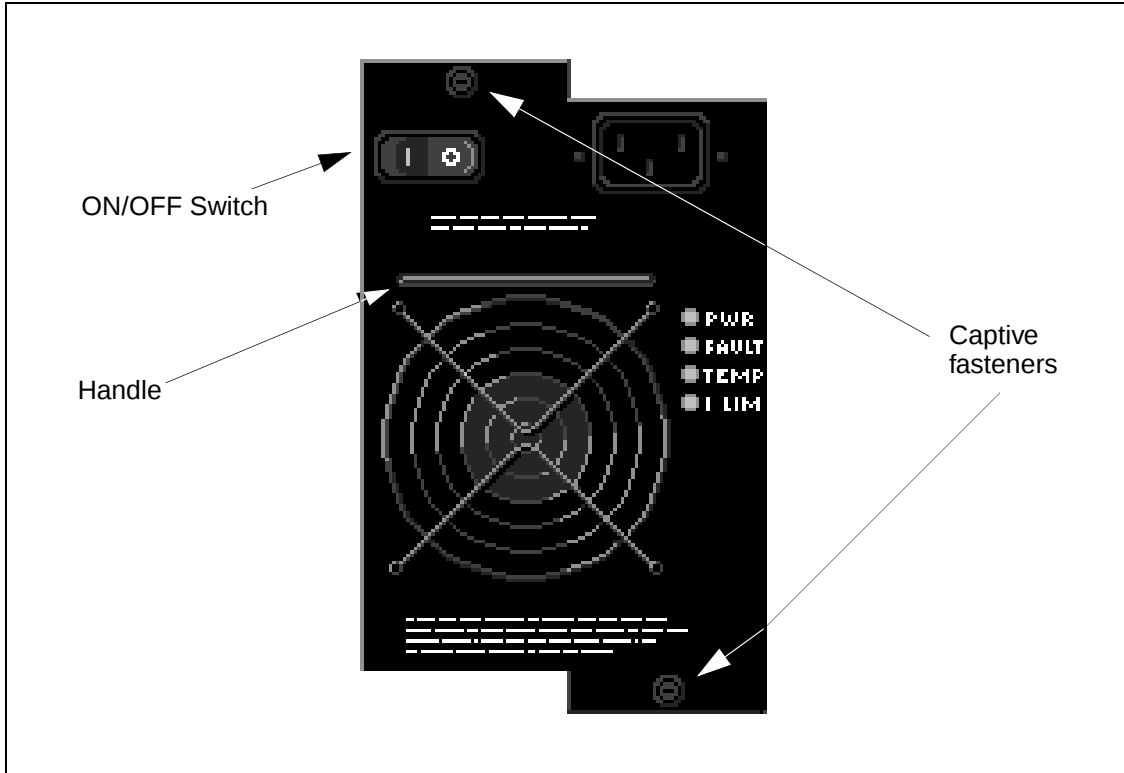

Figure 3.3 - Model B ASX-1000 AC Power Supply
A model B AC power supply module for an ASX-1000 is shown in Figure 3.3.
2. Turn OFF the power switch on the front of the defective power supply. Wait at least one (1) second after turning off the power before moving on to the next step.
4. Unscrew the two captive fasteners (one on the upper, left corner of the faceplate and one on the lower, right corner of the faceplate, see Figure 3.3) using a straight blade screwdriver.